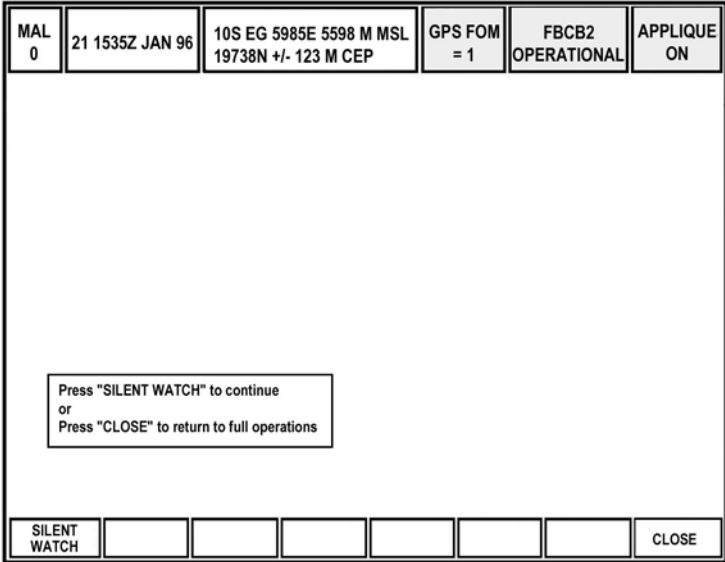

Figure 17. SILENT WATCH warning message.
- (1) Press and release the SILENT WATCH softkey.
- (2) Observe the silent watch menu screen.
- (3) Press the SILENT WATCH softkey again to continue or press CLOSE to return to full operations (Figure 17).